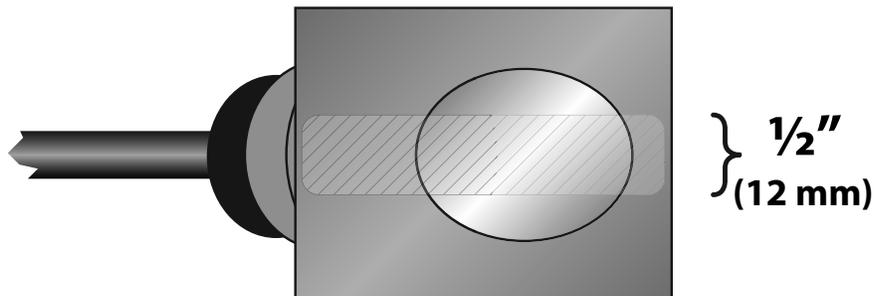

FIGURE 2.4 - APPLICATION OF COUPLANT
For DTTN, DTTL, and DTTH transducers, place a single bead of couplant, approximately ½ inch (12 mm) thick, on the flat face of the transducer. See **Figure 2.4**. Generally, a silicone-based grease is used as an acoustic couplant, but any grease-like substance that is rated not to “flow” at the temperature that the pipe may operate at will be acceptable. For pipe surface temperature over 130 °F (55 °C), Sonotemp® (DYNASONICS P.N. D002-2011-010) is recommended.
- 5) For DTTN, DTTL, and DTTT transducers, place a single bead of couplant, approximately 1/2 inch (12 mm) thick, on the flat face of the transducer. See **Figure 2.4**. Generally, a silicone-based grease is used as an acoustic couplant, but any good quality grease-like substance that is rated to not “flow” at the temperature that the pipe may operate at will be acceptable.
- 4) Place a single bead of couplant, approximately ½ inch (12 mm) thick, on the flat face of the transducer. See **Figure 2.4**.